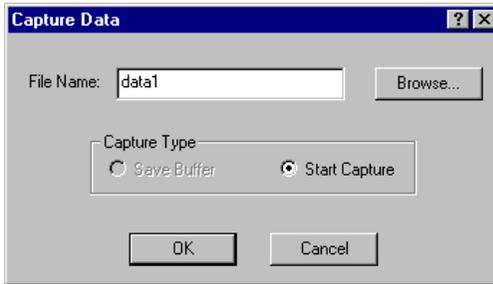

Figure 5-26. Capture Data to a File
1. Click Capture Data. A Capture Data dialog box is displayed (Figure 5-26).